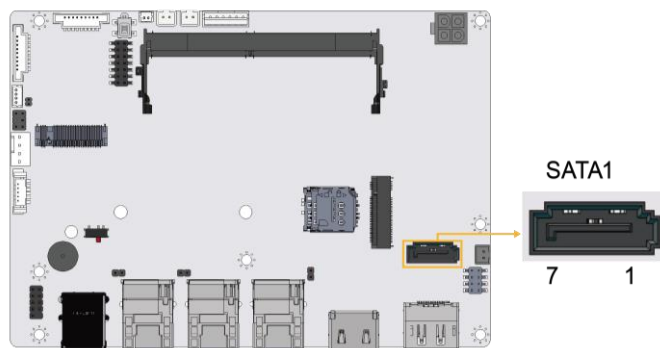

Figure 3-15: SATA 6Gb/s Drive Connectors Location
- CN Location:** See **Figure 3-15**